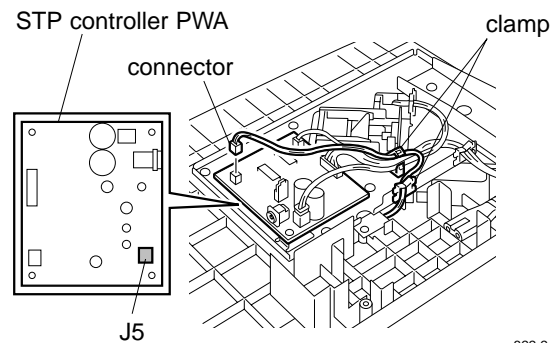

Fig. 6-14
- Remove STP LED PWA. (See Fig. 6-14 and 6-15)